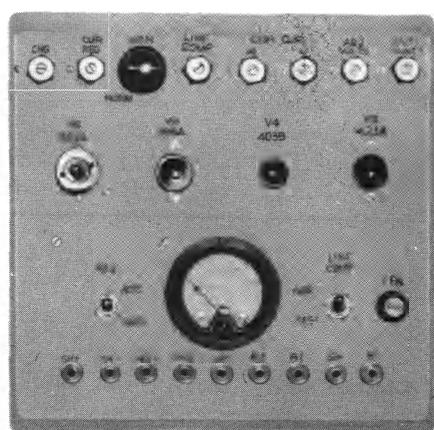

Fig. 3 – Voltage Regulator Controls
- (1) Open the generator knife switch (horizontal position). Operate the controls on the voltage regulator (Fig. 3) as follows.
- (2) The MAN, ANTI-HUNT 1, CUR REG, CHG, and ADJ VOLTS potentiometers maximum ccw (the AH2 potentiometer, inside the voltage regulator, is factory-set and should not be changed at this time).
- (3) The LINE COMP, CON CUR H, and CON CUR L potentiometers maximum cw.
- (4) The REG switch (on regulator panel) to MAN and the LINE COMP switch to NOR.
- (5) The REG key (on top of the generator control bay) to TEST, noting that the generator voltage increases slightly.